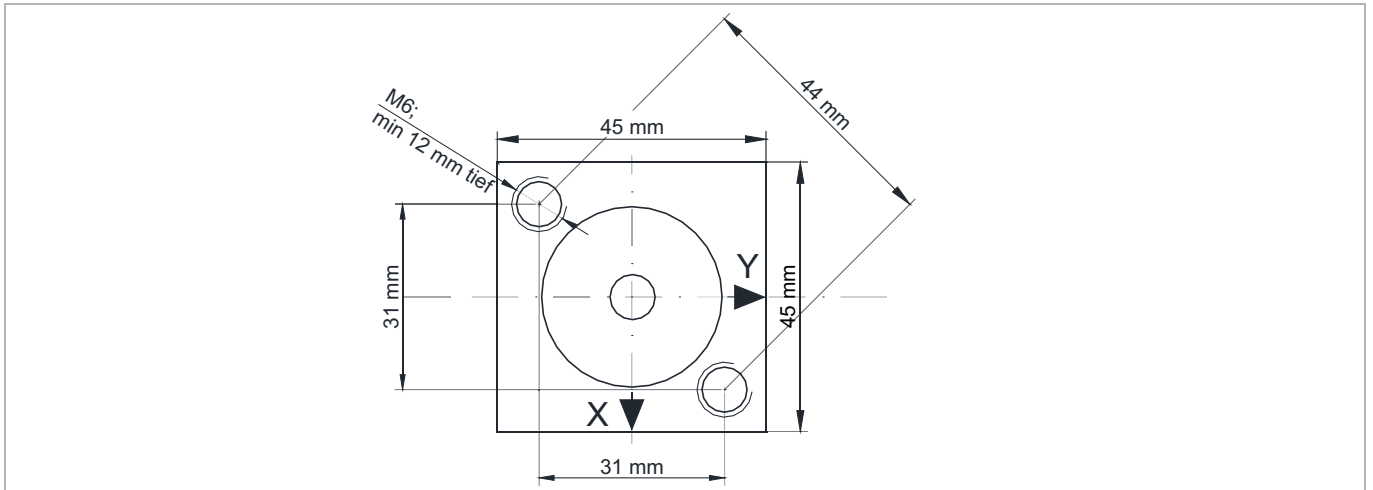

Abbildung 2 Assembly drawing
3. Drill two mounting holes, each with an M6 threaded hole and a depth of at least 12 mm (see Fig. 2.: "Assembly drawing").